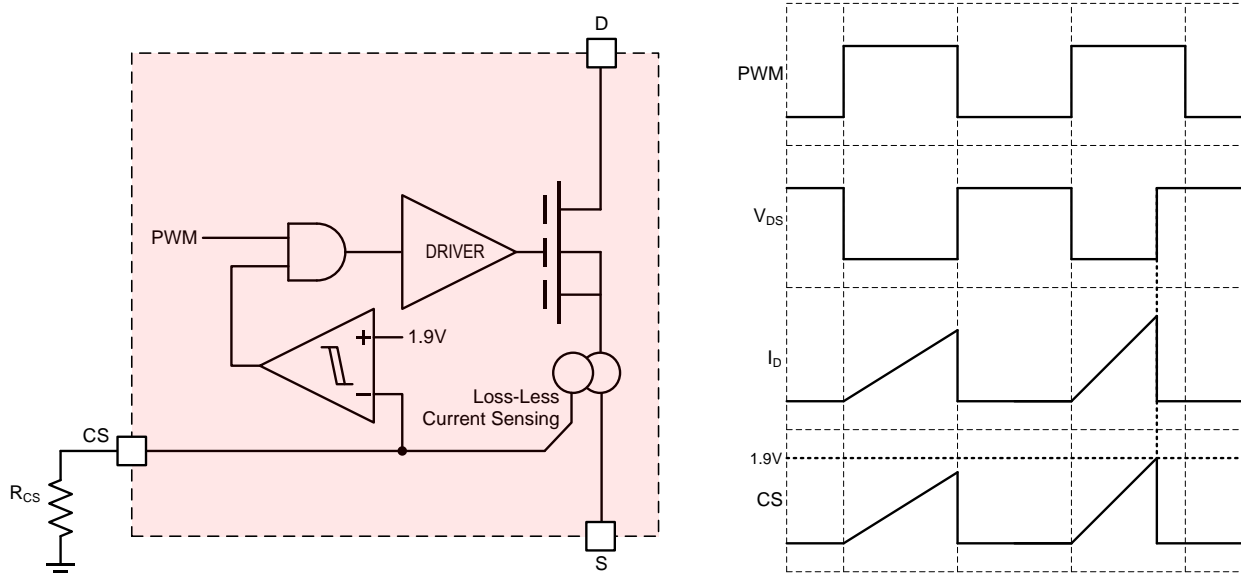

Fig. 21. Current Sense Circuit and Timing Diagram
In many systems implemented with a peak current mode control or over current protection (OCP) functions, the current flowing through the power FET needs to be sensed. To sense the current, most solutions use a current-sense resistor in series with the FET and it increases power loss and introduces more parasitic inductance into the power loop. ISG6102 employs a current-sense circuit without any external resistor to sense the current as shown in Fig. 21. The loss-less current-sense circuit converts the current flowing through the GaN FET to the output current signal of CS pin with a conversion ratio of 3520:1 (typical). The output current of CS pin can be converted to the voltage by a resistor, R_{CS} , placed between CS pin and ground. The value of R_{CS} can be adjusted to provide the current-sense voltage with a proper voltage range for various controllers. The voltage on CS pin, V_{CS} , is determined by equation (1).
where I_D is the drain current of GaN FET. Fig. 21 shows the switching timing diagram of the current sense output.
The ISG6102 provides a cycle-by-cycle over current protection based on the current-sense signal, V_{CS} , to protect the GaN FET. As illustrated in the timing diagram of Fig. 21, when the CS-pin voltage exceeds 1.9V (typical), the GaN FET is turned off. GaN FET will be turned on again at the next rising edge of PWM signal. The current limit by OCP can be calculated by equation (2).